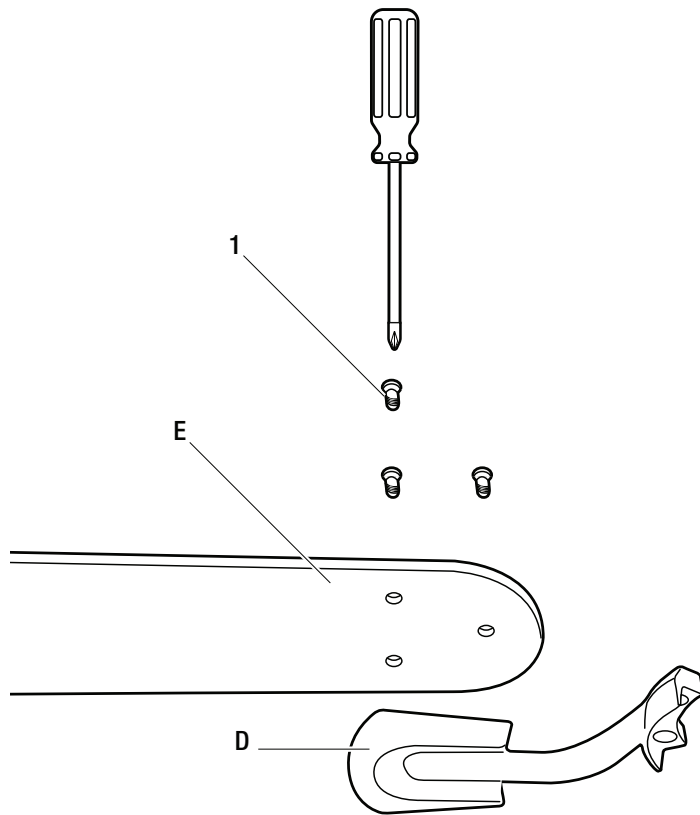

Figure 10
- Mount the blade holders (D) to the fan blades (E) using the screws (1) provided – 3 per blade (Figure 10). Please note the rubber washers are pre-attached to the blade holder (D).